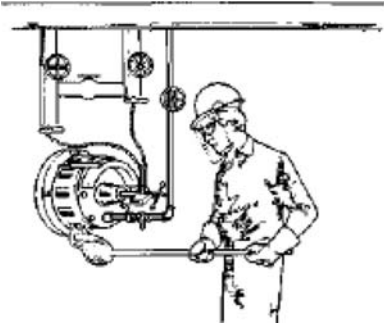

Figure 50 Just before light-off, check the draught with the torch and think: Furnace purged? All fuel valves closed? Draught fans running? Dry drum drained?
8. Remember that a strong wind increases draught at upwind burners, so it is best to light them first. After lighting the torch, *stand to one side* and check the draught by holding the torch in front of the air registers of the burner to be lighted (Figure 50). A draught will pull smoke from the torch into the firebox.